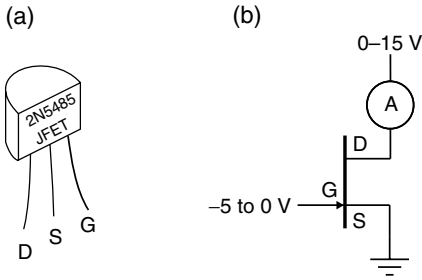

Fig. 5.4. Circuit for measuring the common-source characteristic curves.
- ▷ Use the diode-test feature of the multimeter and verify this picture using a 2N5485 JFET (the pinout for the 2N5485 is shown in Fig. 5.4).
The common-source characteristic curves for the 2N5485 can be measured using the circuit shown in Fig. 5.4. These curves illustrate the basic dependences among I_D , V_{DS} , and V_{GS} , and will be useful while performing the remaining exercises.